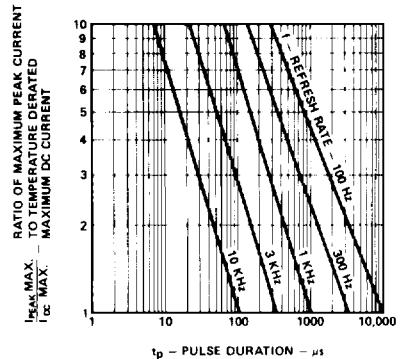

Figure 6. Maximum Tolerable Peak Current vs. Peak Duration ( $I_{PEAK}$  MAX Determined from Temperature Derated  $I_{DC}$  MAX).
2. Refer to Figure 6 to establish pulsed operating conditions.